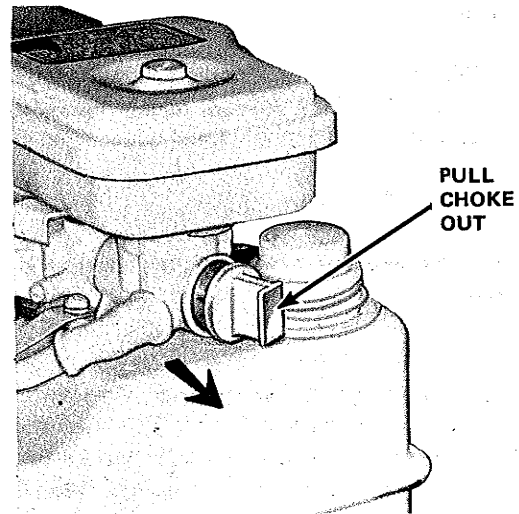

Figure 12.
b. See Figure 12. Pull choke plunger out to CHOKE position.